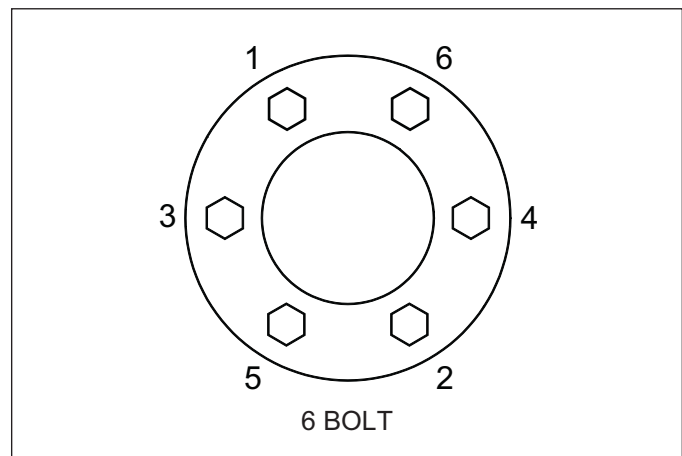

Figure 2-1: Tightening Sequence
- Install a Tire and Wheel Assembly onto each Transport Axle Hub, with 1/2-20 x 1 Wheel Bolts and tighten to 50 Ft-Lbs using the sequence in **Figure 2-1**. Then tighten to a full torque to 85-90 Ft-Lbs.